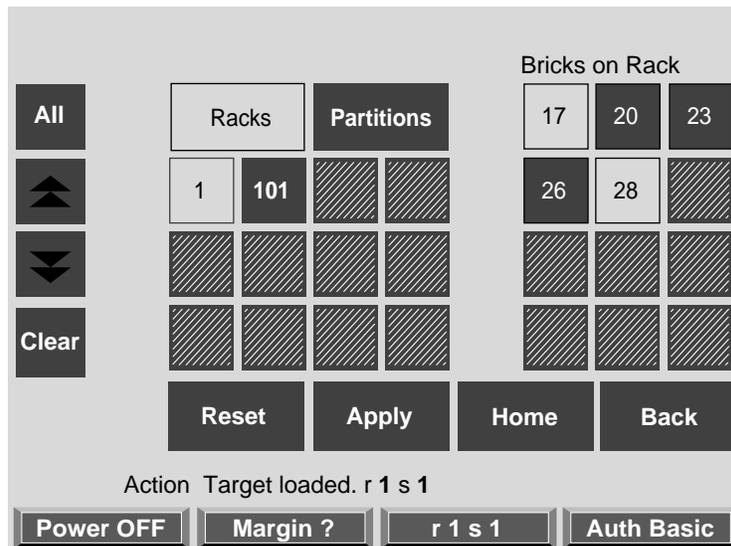

Figure 2-21 Bricks on the Rack Section
3. The bricks are selected by their rack and slot/bay (unit position) number. Select **All** in the upper left-hand corner of the display if you want to power off all the bricks in all the racks and slots in the server. If you want to select individual bricks to power off, first select the rack(s) from which you want to select bricks. For example, if you select rack 1, a section on the window with all the bricks in rack 1 will appear, as shown in Figure 2-21.